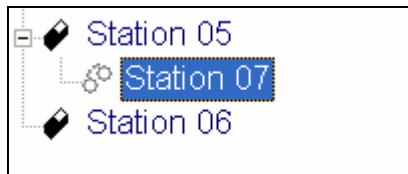

Figure 16.4.44C
- Release the left mouse button while the cursor on the screen is directly over the station that you want to assign the slave to (Figure 16.4.44C).